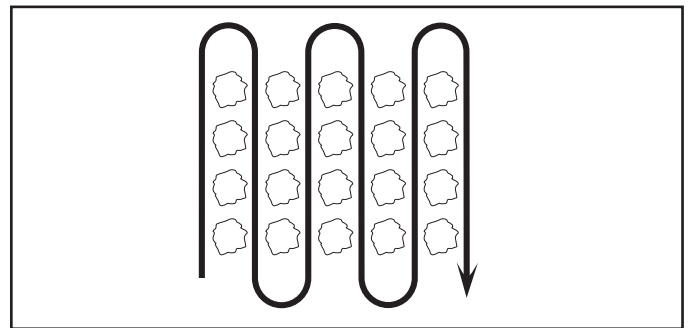

Fig. 15
- Cultivate up and down the rows at a speed which will allow tines to uproot weeds and leave the ground in rough condition, promoting no further growth of weeds and grass (See Fig. 15).